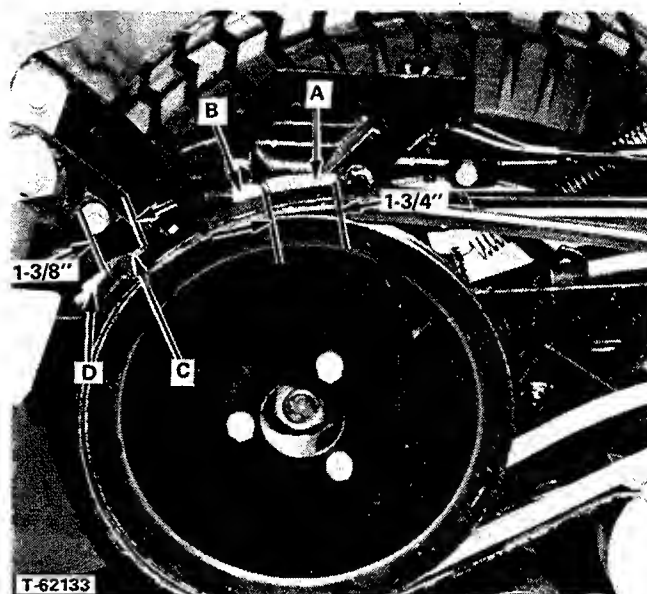

FIGURE 36 - Pulley Brake Adjustment
- The pulley brake return spring (C, Figure 36) should be compressed enough so that it measures $1-3/8''$ (34 mm) with the clutch-brake pedal released (up). If it does not, turn the nut (D) to obtain the proper measurement.
- While holding the clutch-brake pedal down fully, measure the length of the spring (A) on the pulley brake rod. It should be compressed to $1-3/4''$ (45 mm). If it is not $1-3/4''$ (45 mm) loosen the adjusting nut (B) and move it forward or back until the proper measurement is reached.